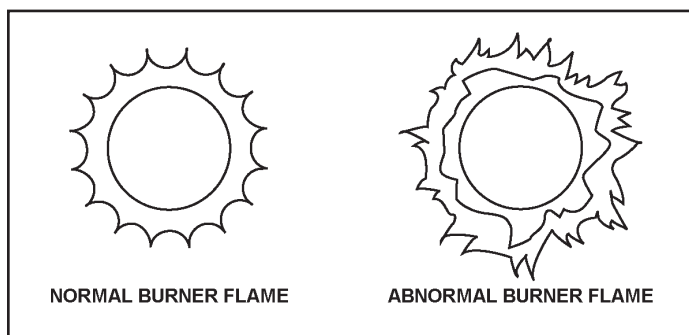

FIGURE 20. BURNER FLAMES
This is a pre-mix burner system. The flame is not supposed to be directly on the burner. The flame should be just above the burner deck approximately 1/8” and blue in color, see Figure 20.
Visually check flame characteristics through the view port located on the top head of the boiler. Figure 20 shows the normal flame condition.
- Cause no excessive lifting of flame from burner ports, see Figure 20.